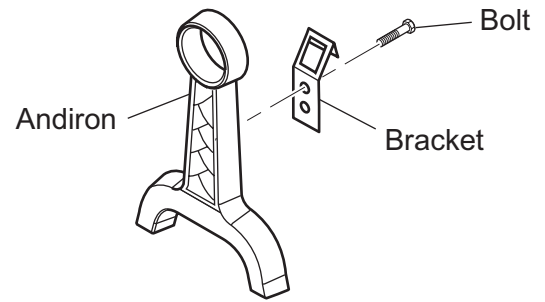

Figure 44 - Installing Andiron
1. Remove two (2) brackets and two (2) bolts from package.
2. Attach bracket to back of each andiron with bolts provided. *See Figure 44.*